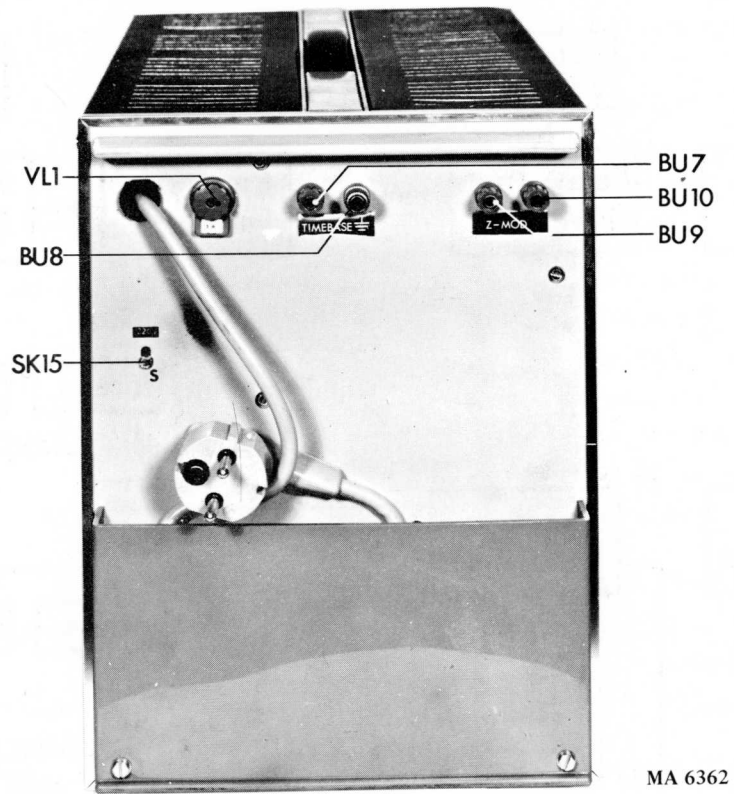

Fig. 3. Rear view
- Slightly loosen screw "S" (Fig. 3).
B. FUSE (VL1, Fig. 3)
A. CONTROLS, SOCKETS AND THEIR FUNCTIONS (see Figs. 3, 4)